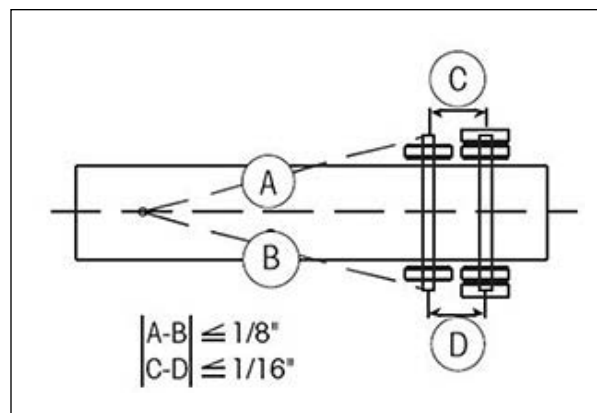

Figure 29 – Measurement Schematic
4. Measure the distances "A" and "B" from the kingpin to the forward axle as show in Figure 29 below. These distances must be within 1/8" (3.2 mm) of each other. After aligning the front axle with the trailer kingpin, then align the centre axle with the front axle, then align the rear axle to the centre axle.
The gauge sketched in Figure 29 simplifies measuring the inter-axle distances "C" and "D". The gauge can be made of drill rod or pipe fittings. The material and details are not important as long as the parts are rigid and true. The pointer arms of the gauge should be parallel and held in the same plane.